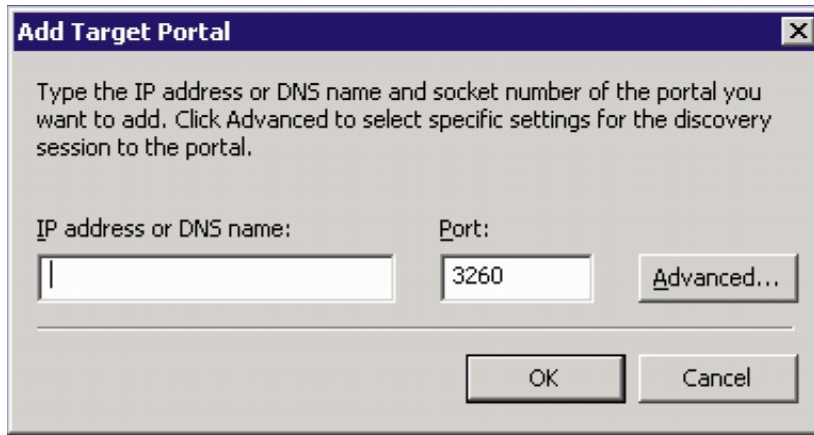

Figure 26 Add Target Portal window
2. On the Discovery Tab, click **Add** under Target Portals. The Add Target Portal window opens (Figure 26).